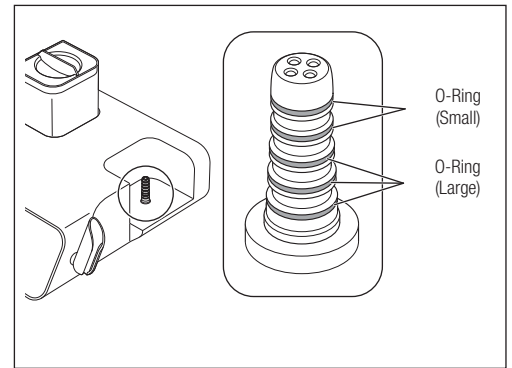

Fig. 47
- Since the size of the O-Rings differ, make sure to replace them in the correct location (Fig. 47).